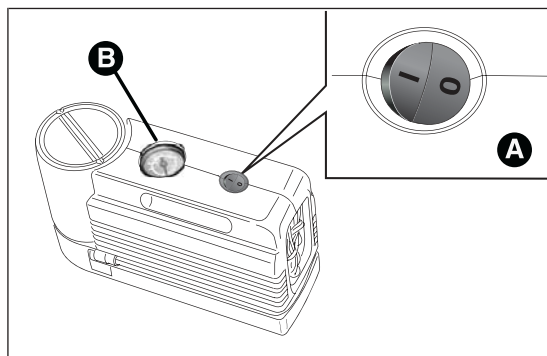
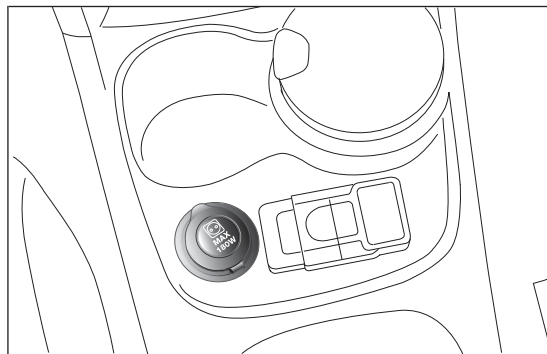

fig. 123
fig. 124
- ☐ make sure that the compressor switch A fig. 123 is in position 0 (off), start the engine, plug into the power socket in the central tunnel fig. 124 and operate the compressor turning switch A to position I (on). Inflate the tyre to the pressure specified in the "Inflation pressure" paragraph in the "Technical specifications" section.
Check tyre pressure on gauge B fig. 123 with compressor off to obtain a more precise reading;